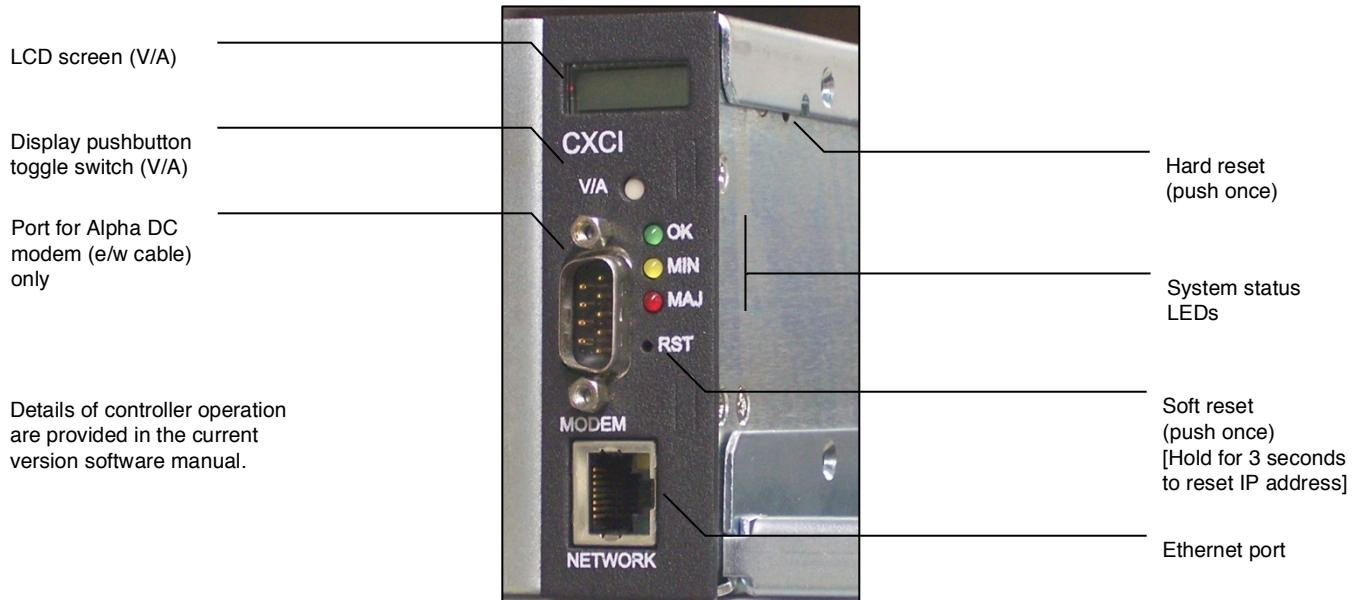
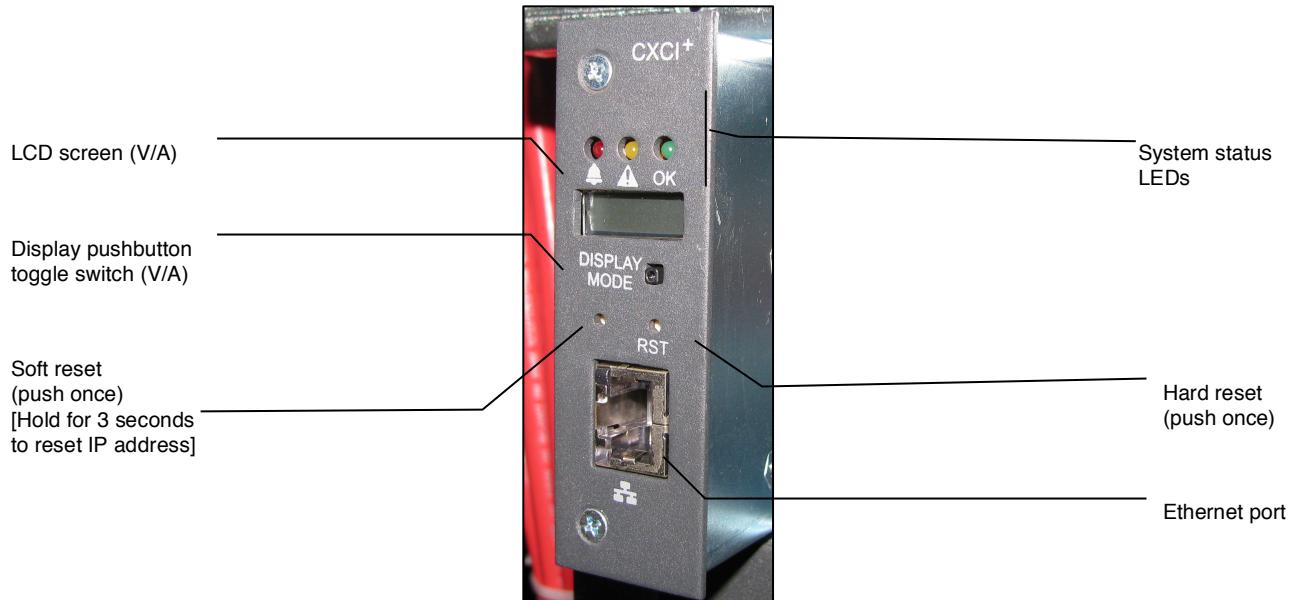

Figure 6—Cordex CXCI model system controller front panel
Figure 7–Cordex CXCI+ model system controller front panel
The CXCI (Figure 6) and CXCI+ (Figure 7) controllers have a 4-digit display, for monitoring system voltage (V) and current (A). A pushbutton toggle switch allows the user to alternate the display reading.
The Modem port (front panel DB-9 connector, Figure 6) is designed for CXCI connection to Alpha Technologies' Cordex DC Modem #018-585-20 (complete with Alpha cable).
The Ethernet port is designed for CXCI/CXCI+ connection to a user supplied network (TCP/IP secured by user) via a front panel RJ-45 jack (Figure 6) and a standard network cable.